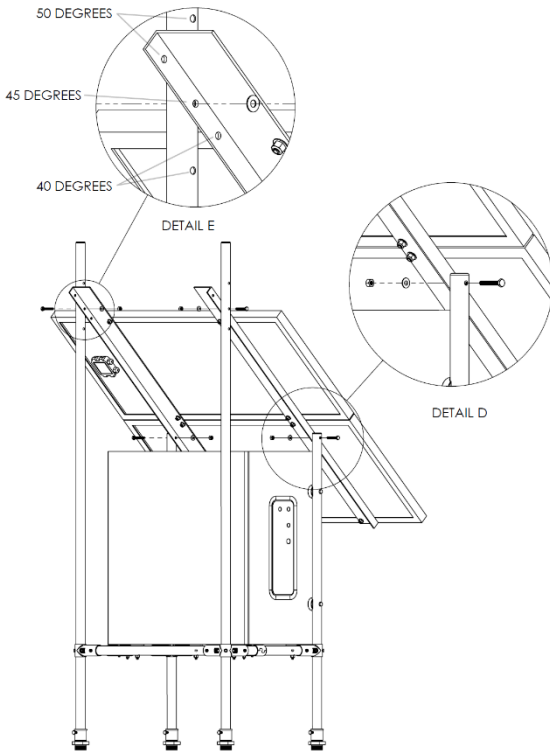

FIGURE 17
15. . Have 4 each of: 1/4-20 x 1 3/4 fasteners, 1/4-20 self-locking nuts and 1/4-20 washers ready for use in the next two steps. Using 2 or more people, carefully lift the solar panel assembly and align the lower mounting holes on the solar panel mounting angles with the cross-drilled holes on the top of the 38.25-inch uprights as shown **(FIGURE 17)**. Install the fasteners as shown **(DETAIL D)** and tighten the nuts until they are almost fully tight.